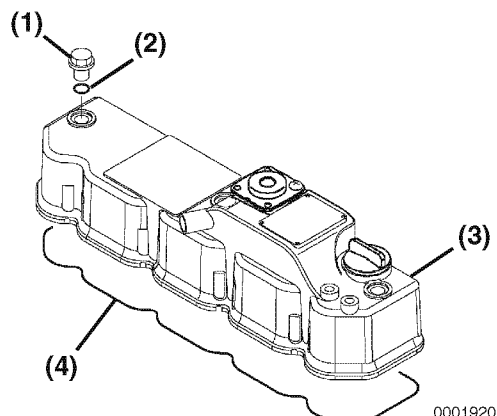

Figure 6-7
1. Remove the valve cover nuts (Figure 6-7, (1)).
2. Remove the O-ring (Figure 6-7, (2)) on each valve cover nut.
3. Remove the valve cover (Figure 6-7, (3)) and the valve cover gasket (Figure 6-7, (4)).